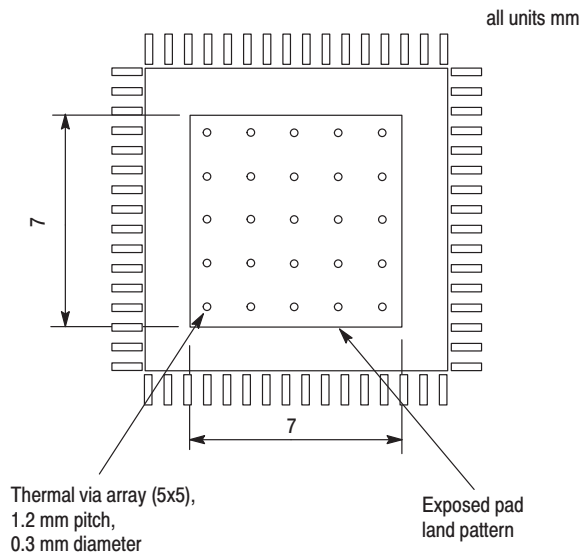

Figure 3. Recommended thermal land pattern
The MC100EP220 uses a thermally enhanced exposed pad (EP) 52 lead LQFP package. The package is molded so that the leadframe is exposed at the surface of the package bottom side. The exposed metal pad will provide the low thermal impedance that supports the power consumption of the MC100EP220 high-speed bipolar integrated circuit and eases the power management task for the system design. A thermal land pattern on the printed circuit board and thermal vias are recommended in order to take advantage of the enhanced thermal capabilities of the MC100EP220. Direct soldering of the exposed pad to the thermal land will provide an efficient thermal path. In multilayer board designs, thermal vias thermally connect the exposed pad to internal copper planes. Number of vias, spacing, via diameters and land pattern design depend on the application and the amount of heat to be removed from the package. A nine thermal via array, arranged in a 3 x 3 array and using a 1.2 mm pitch in the center of the thermal land is the absolute minimum requirement for MC100EP220 applications on multi-layer boards. The recommended thermal land design comprises a 5 x 5 thermal via array as shown in Figure 3 "Recommended thermal land pattern", providing an efficient heat removal path.